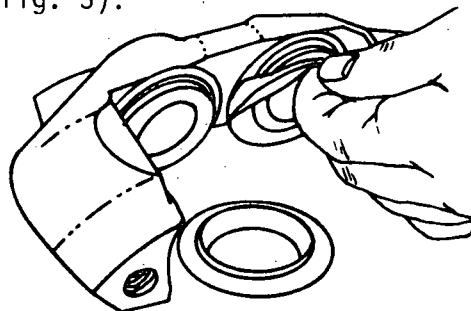

Fig. 3
f) Remove the dust covers (fig. 3).